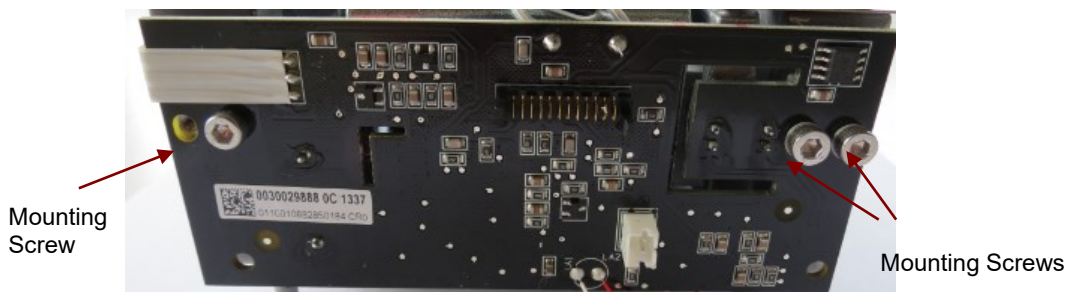

Figure 3-63. Position Sensor Board.
11. Tighten the screws on the Position Sensor Board. (See Figure 3-63.)
9. Attach the Position Sensor Board to the Load Cell frame, using three screws. (See Figure 3-63.) The left side screw goes in the outside hole. It has no washer. The two right-side screws both have washers. Install screws finger-tight, so the board can be moved for adjustment, in Step 17 below.